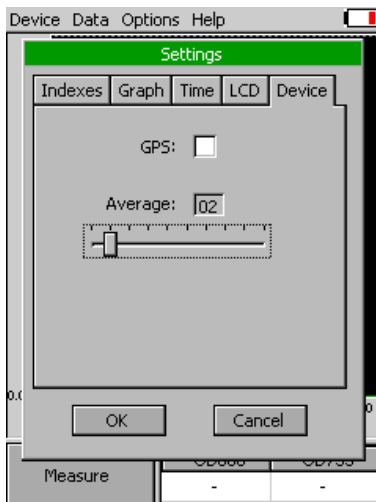

Fig. 11 Settings - Device.
- **Average** - Average function is used for adjusting the number of scans for each reading. Averaging of more scans results in a higher signal-to-noise ratio but increases the time required for each reading that appears on the screen. Move slider to set the number of measurements to be acquired for averaged values (Fig. 11). Data are affected.